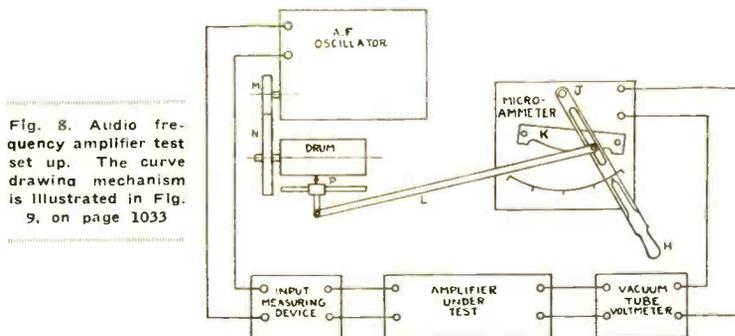

Fig. 8. Audio frequency amplifier test set up. The curve drawing mechanism is illustrated in Fig. 9, on page 1033
2. A quicker method, and one in which a continuous measurement is made of all points along the frequency range is shown in general outline, with the necessary apparatus arrangement in Fig. 8. Here the shaft of the oscillator variable condenser is geared, by some convenient means, shown here as the gears  $M$  and  $N$ , to